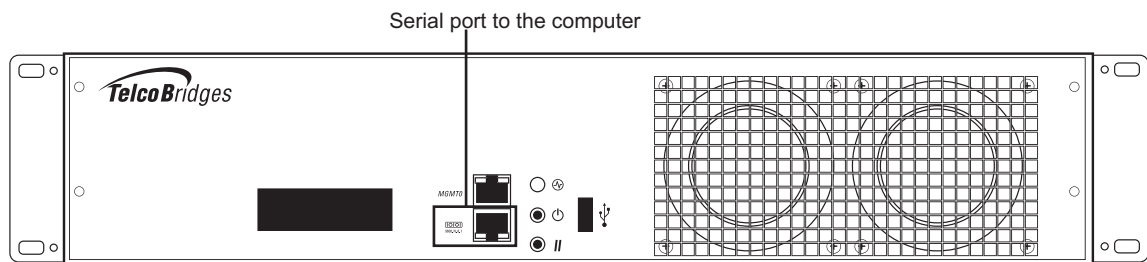

Figure 3.4 Computer to TMP6400 Telecom Unit Serial Port Connection
1. Connect a CAT5 RJ-45 (male-male) cable (supplied with unit) between the com port of your computer and the serial port (labelled 10101) of the TMP6400 Telecom Unit as shown in figure 3.4 on page 57. See Section A.2 on page 67 for a RJ-45 console wiring diagram.